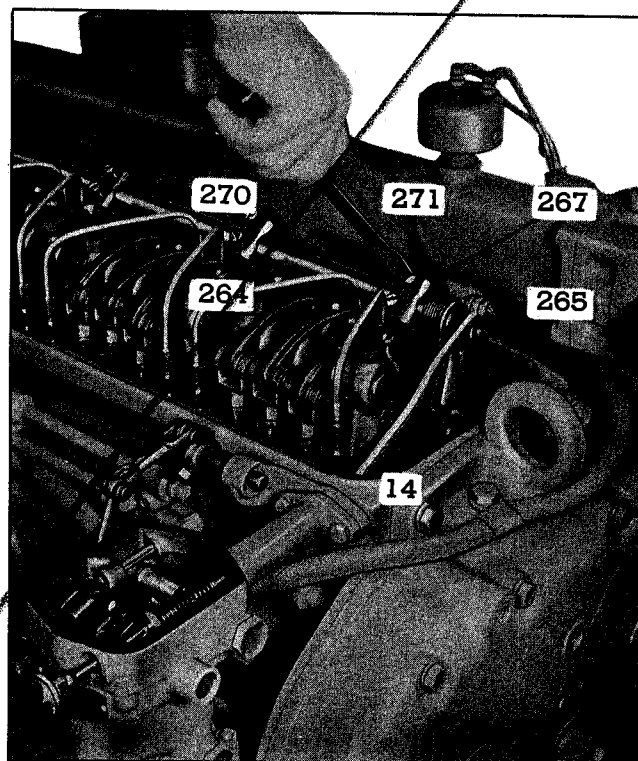

Fig. 14—Positioning No. 1 Injector Rack Control Lever.
1. Remove governor cover. Refer to Fig. 14 and
1. Turn outer adjusting screw (271), Fig. 14, in until a slight movement of the injector control tube lever (265) is observed. Tighten inner adjusting screw (270).